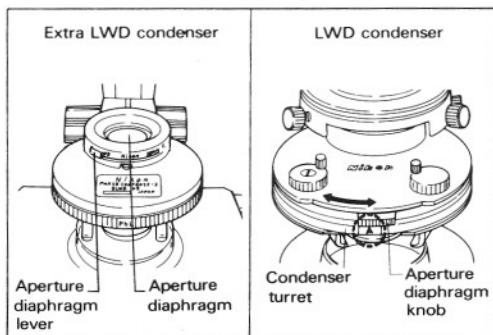

Fig. 39
- The diaphragm, provided for adjusting the numerical aperture of the illumination system, will generally offer a proper contrast to the image, when closed to 70% ~ 80% of the numerical aperture of the objective being used, by means of the diaphragm lever or knob. (Fig. 39 and 40)